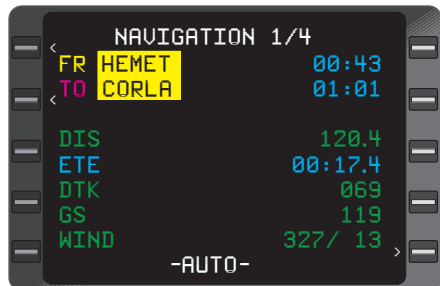

Figure 3-173
- (1) Latitude - INSERT (**N** or **S** first, then degrees, minutes, and hundredths).
- (2) **ENT** Key - DEPRESS.
- (3) Longitude - INSERT (**E** or **W** first, then degrees, minutes, and hundredths).
6. **TO** Waypoint Identifier - INSERT or VERIFY. (Figure 3-173)